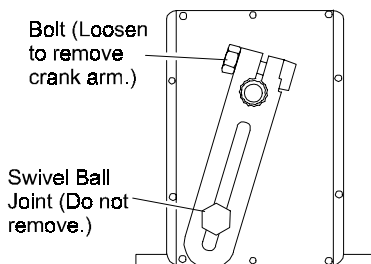

Figure 5: Crank Arm Position
1. Install the actuator crank arm to the new actuator in the same position as it was on the previous actuator (see Figure 5). Use a 1/2 inch open-end wrench or nut driver to tighten the bolt and nut.